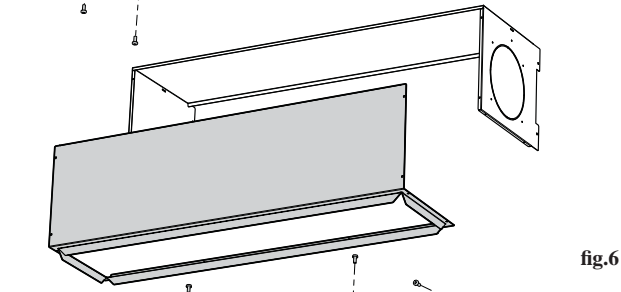

fig.6
- Rotate the rectangular flange downwards and fasten it using the screws removed at the previous point (fig.6).